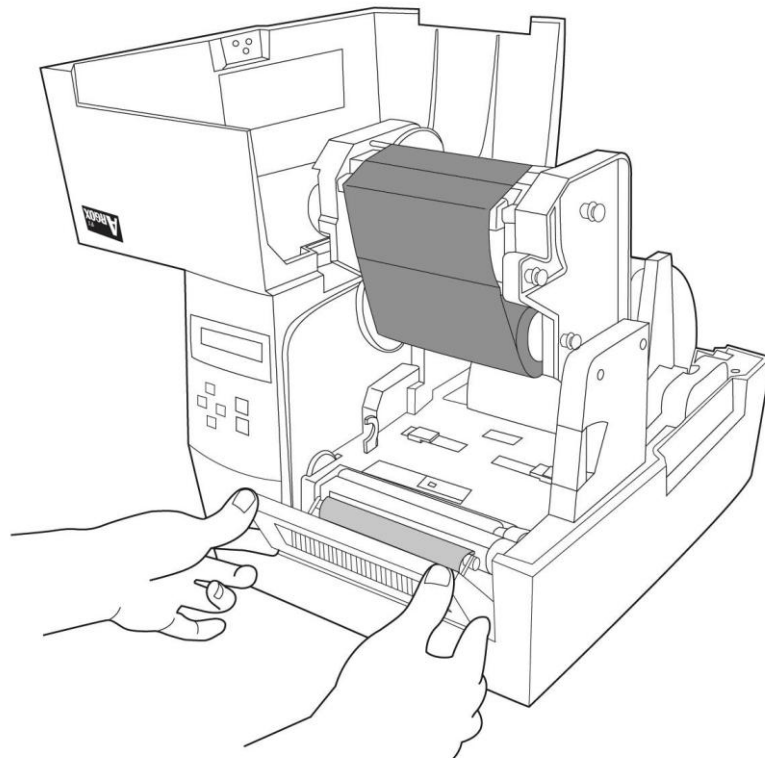

Figure 17
1. Open the peeler assembly. (Figure 17)